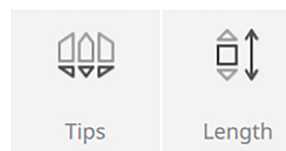

Fig. 37
6. Using the same stitch, select the Edit Menu » Tapering Option (Fig. 37) » Tips.